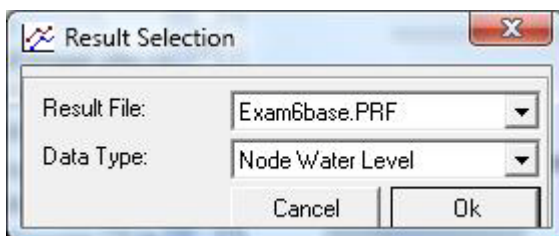

Figure 23.4 Choosing the type of data to display on the TOC
- On the dialog that comes up, see Figure 23.4, choose between the loaded result files and the data type to display on the TOC (e.g. water level in nodes, discharge in branches etc.). The data types are dependent on the result file